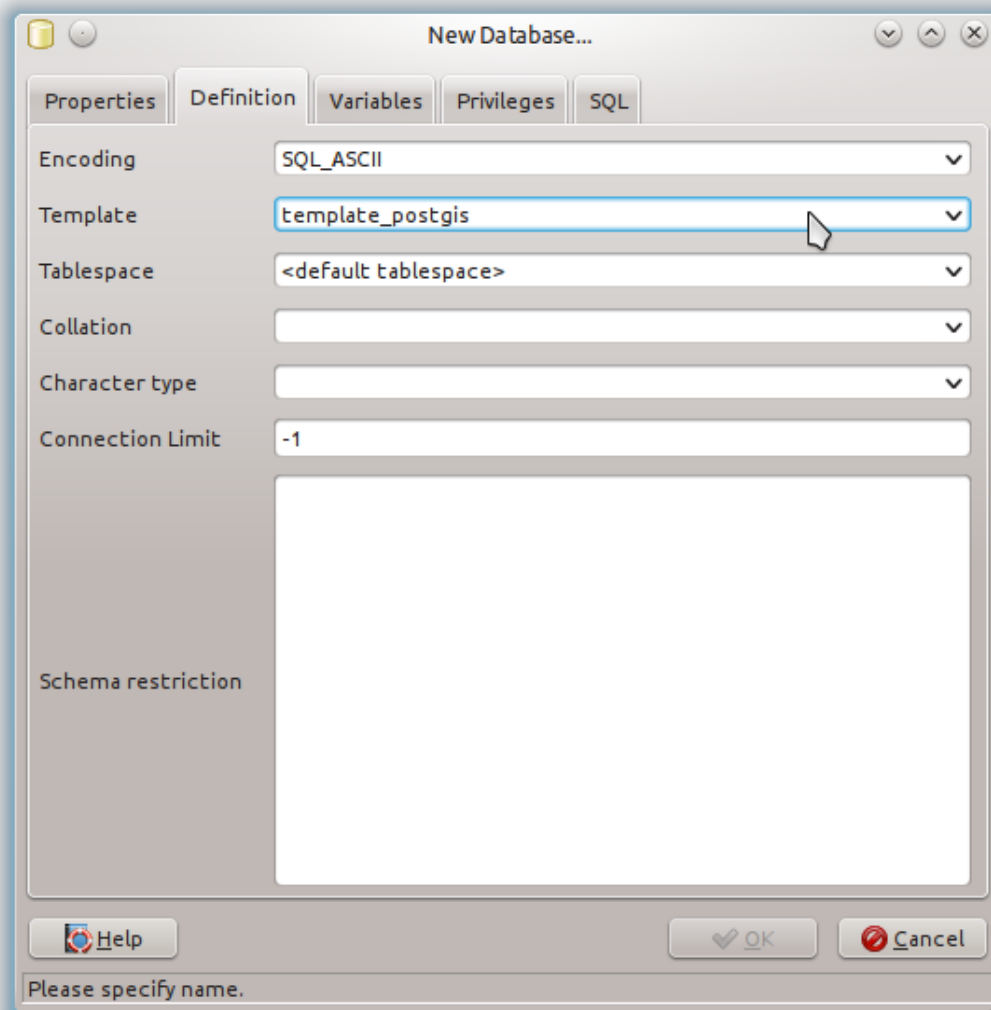

Figure 5.6: How to create a new *PostGis* database.
4. Go to *template* and select *postgis_template* (see Figure 5.6)